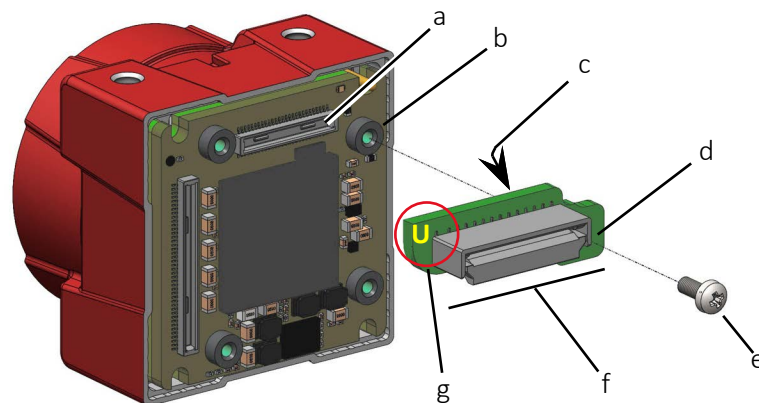

Figure 30: Alvium USB Flex camera, Add-on Board, and screw
- Connect Alvium USB Flex Add-on Boards only as shown in Figure 30.
2. Plug the DF40C-50DS-0.4V connector (c) of the Alvium USB Flex Add-on Board to the Hirose DF40C-50DP-0.4V connector (a) of the camera as shown in Figure 30.